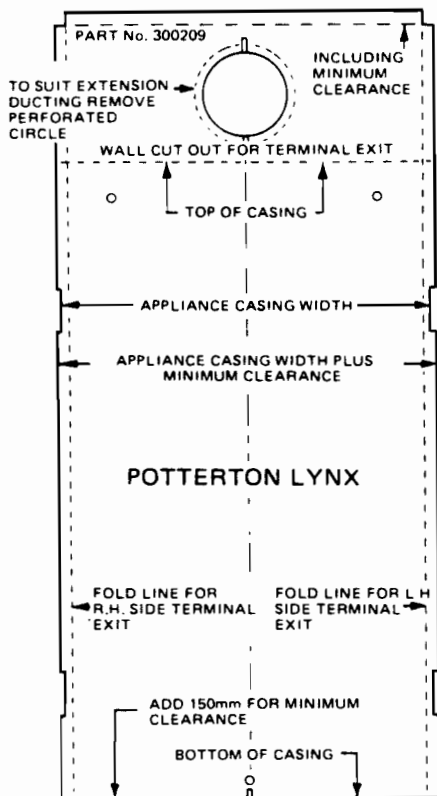

FIG. 13 WALL FIXING TEMPLATE
## 2. THE WALL FIXING TEMPLATE (Fig. 13)
- Tape the wall fixing template to the wall in the selected position (see Fig. 13).